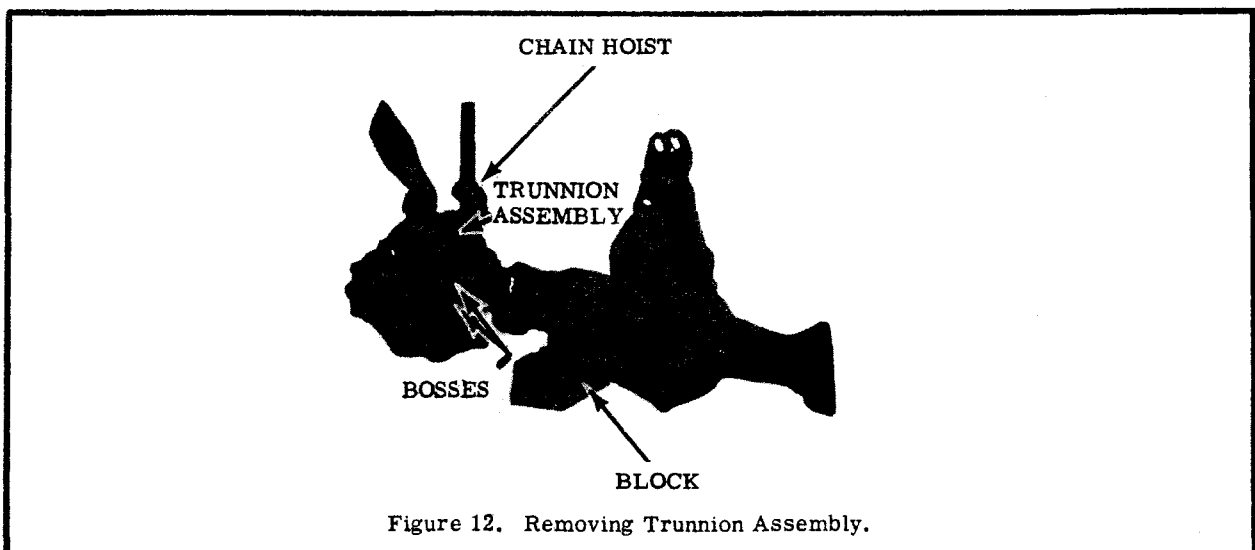

Figure 12. Removing Trunion Assembly.
a. Remove Trunion Assembly. Support axle assembly on wood blocks as shown in figure 12. Remove drain plug and allow lubricant to drain into container. Remove the nuts, lock washers, and bolts that attach trunion assembly to the axle housing flanges. Support the trunion assembly with chain hoist and strike the bosses of the trunion with a hammer to free the axle shafts. Lift the trunion assemblies from the axle housing with chain hoist.